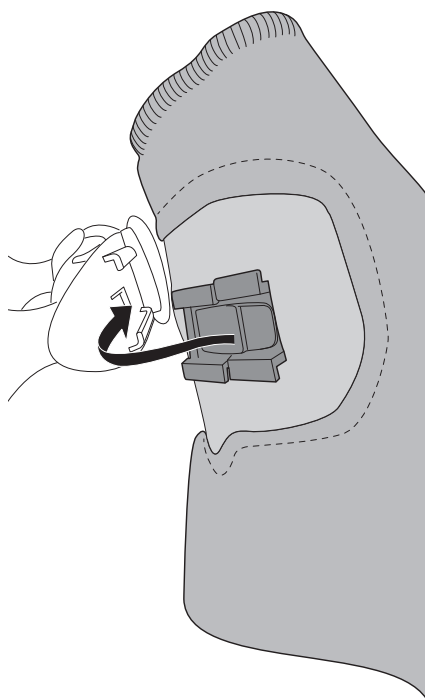

Fig. 29c
- c. Reattach the airduct tube holder to the head suspension. You will hear an audible “click” when appropriately connected (Fig. 29c and 29d).